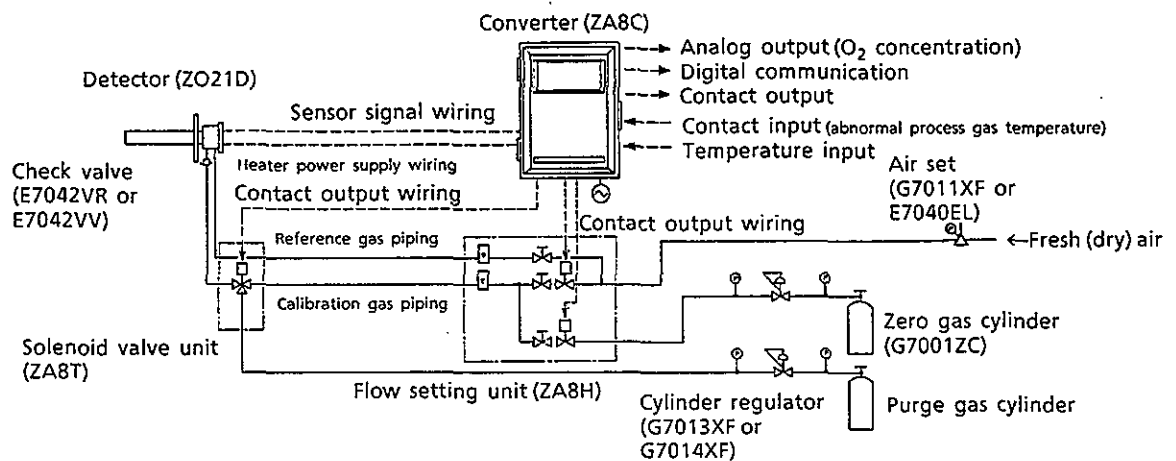

**Figure 4.11 Blow pipe**
- Blow pipe (to be prepared as illustrated in Figure 4.11.)
Install the blow pipe as illustrated in Figure 4.11, and mount it on the high-temperature blow adapter.